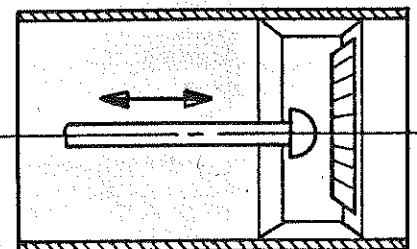

FIG. 6
**NOTE:-** When replacing the burner arm assembly, the air director plate must be located as shown in FIG. 6. The air velocity is controlled by the actual position of the air director.